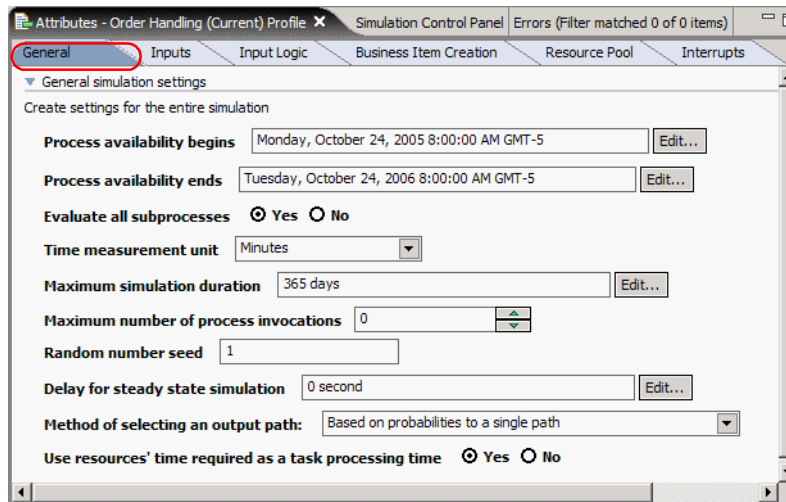

Figure 5-15 Simulation profile: General
- ▶ Populate the *General* tab (Figure 5-15):